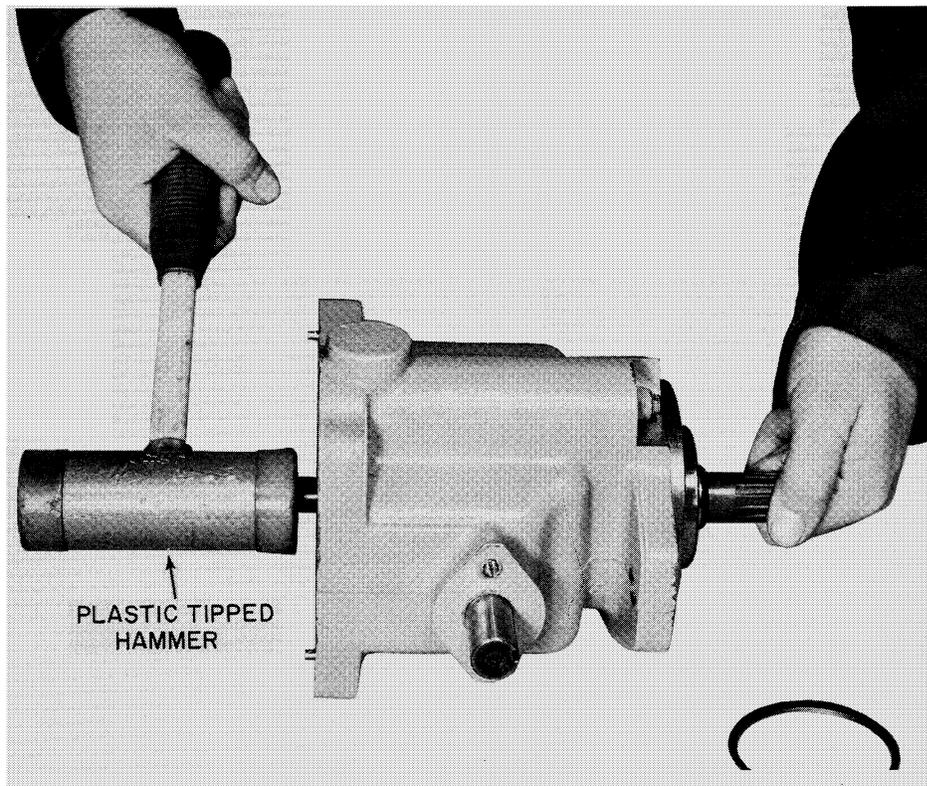

FIGURE 26
16. After the snap ring retainer is out, tap the shaft on the small end with a **plastic-tip** hammer for proper removal. See Figure 26.